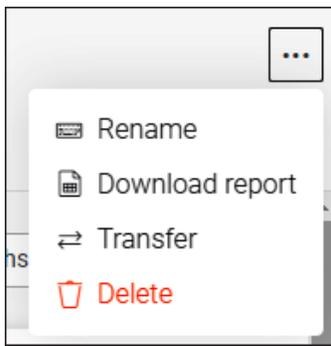

Figure 73. Download Report
4. Click on the “...” button on the top right menu. And select “Download Report”. See **Figure 73**.